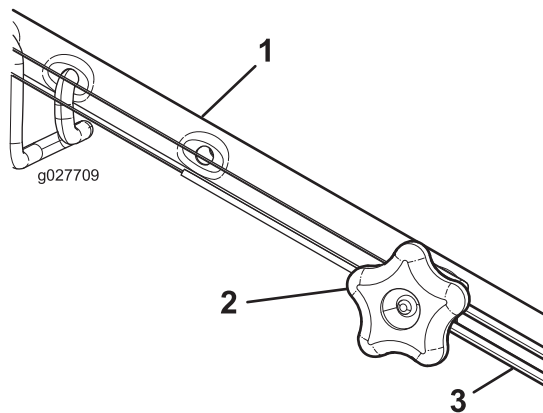

Figure 30
1. Turn the adjustment knob counterclockwise to loosen the cable adjustment (Figure 30).
2. Adjust the tension on the cable (Figure 30) by pulling it back or pushing it forward and holding that position.